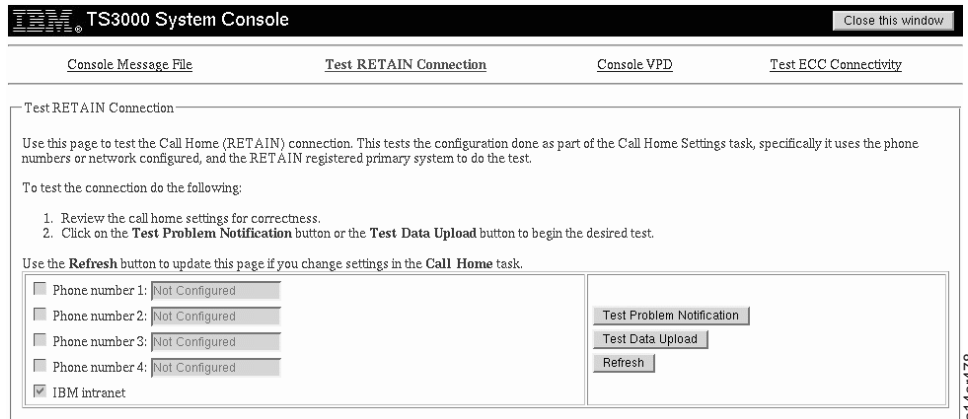

Figure 2-104. Test RETAIN Connection Request Screen - During Installation
4. Click **Console Status**. The Test RETAIN Connection screen shown in Figure 2-104 on page 2-78 appears.